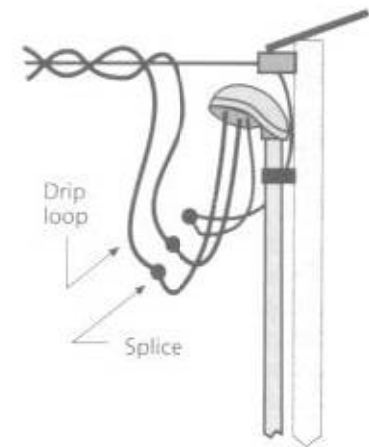

Fig. 8-19 If the service head cannot be located higher than the insulators, provide drip loops, splice at bottom of loop, and insulate.
**Service wire clearance** *NEC* 230.24(B) requires that cabled service wires not over 150 volts to ground (or drip loops as illustrated in Fig. 8-19) be kept 10 feet above finished grade at the point of attachment to the building; 12 feet above residential property and driveways and commercial property not subject to truck traffic; 18 feet over parking areas and driveways other than residential, and farm properties that are subject to truck traffic. No wires may come closer than 3 feet to an openable window (there is no restriction to wires above the top of window), or 3 feet horizontally and 10 feet vertically from any door, porch, fire escape or similar location from which the wires might be touched. If they pass over all or part of a roof that has a rise of 4 inches or more per foot, they must be kept at least 36 inches from the nearest point. If the roof is flatter (less than 4 inches of rise per foot), they must be kept at least 8 feet from the nearest part of the roof.
If it is impossible to locate the service head above the insulators, be sure to provide drip loops (see Fig. 8-19) to keep rain out of the cable. Your power supplier may